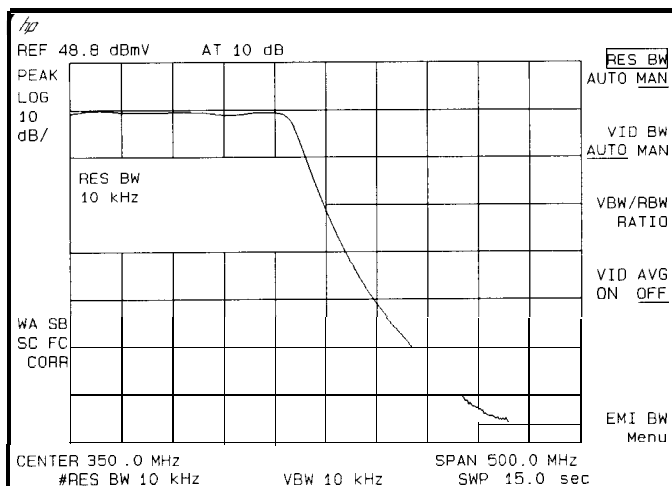

Figure 5-7. Decrease the Resolution Bandwidth to Improve Sensitivity
6. Decrease the resolution bandwidth to increase sensitivity, and narrow the video bandwidth to smooth the noise. In Figure 5-7, the resolution bandwidth has been decreased to 10 kHz.